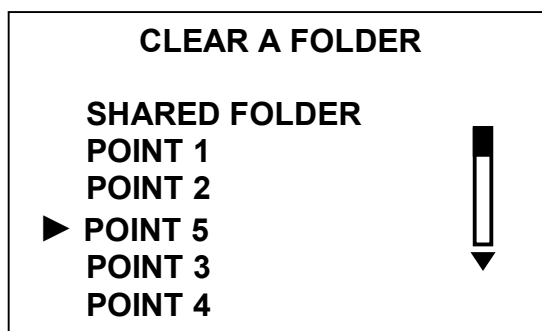

Figure 1.17
a) Figure 1.17 shows the **CLEAR A FOLDER** screen. The folders can have different names.